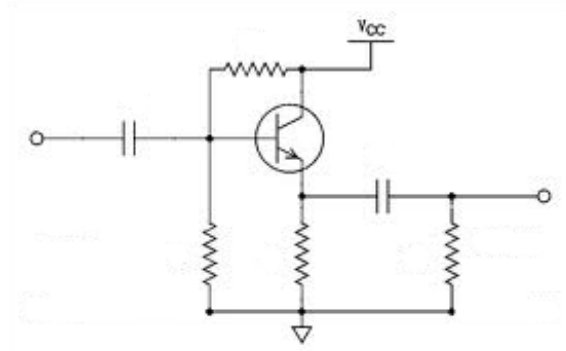

Figure 9: An emitter follower that uses a biasing circuit.
- Build the emitter-follower circuit shown in Figure 9, choosing appropriate values for resistors and capacitors. Use a 2N3904 transistor, or a similar substitute NPN BJT. You will power the circuit with $V_{cc} = +5V$, and will want to amplify signals in the range 100Hz to 50kHz. Mind your R's and C's!